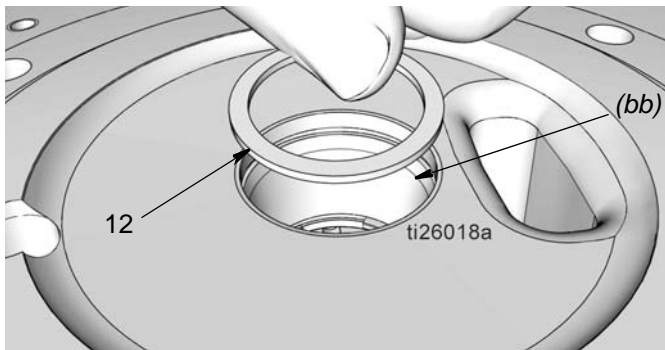

FIG. 34
- b. Verify retaining ring (51) is in place in side the pump base (1).
- c. Install spacer (12) shown in FIG. 34.